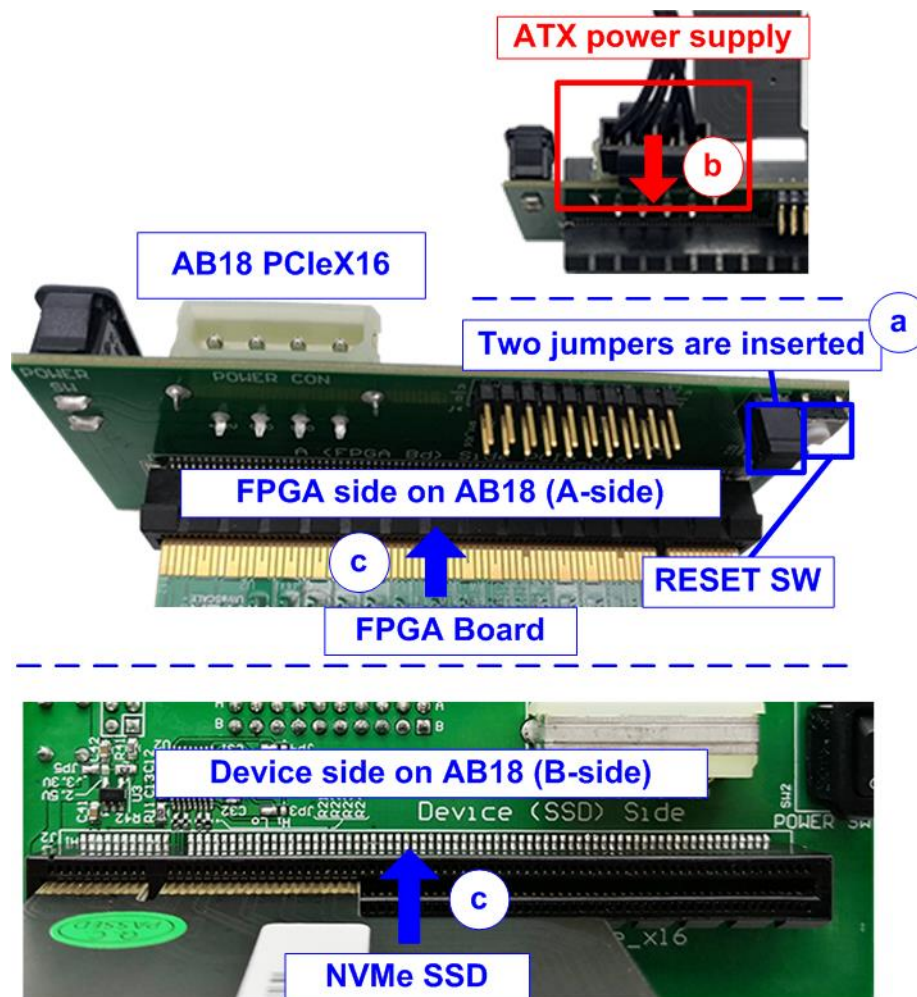

Figure 2-1 Connect AB18-PCIeX16 to KCU116
- c) Connect PCIe connector on FPGA board to FPGA Side (A-side) and connect NVMe PCIe SSD to device side (B-Side) on AB board, as shown in Figure 2-1.